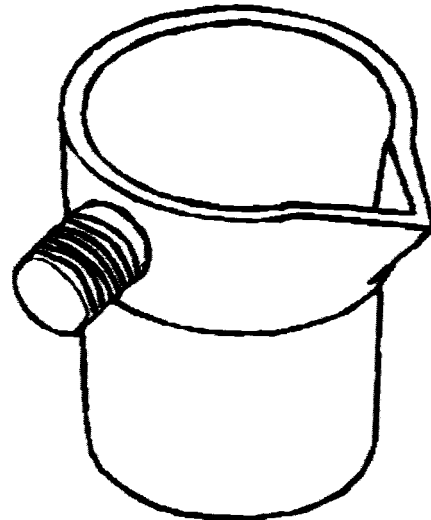

FIG. 1 Dipper
6.1.1.1 One type has an adjustable clamp attached to the end of a metal rod or tube, which may be extendable (see Fig. 1). The rod or tube forms the handle and the clamp is used to secure it to a beaker or other sample container.